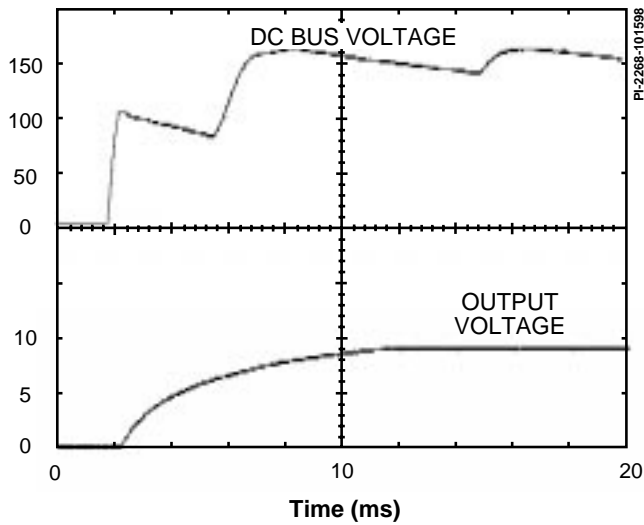

Figure 10. Turn On Delay, 115 VAC Input.
**Power Supply Turn On Sequence** - The waveforms shown in Figure 10 illustrate the relationship between the high-voltage DC bus and the 9 V output voltage. Since the *TinySwitch* internal power consumption is extremely small and is derived entirely from the DRAIN, the supply starts switching almost as soon as power is applied, as shown in Figure 10. The output achieves regulation approximately 8 ms after power is applied, with no overshoot.